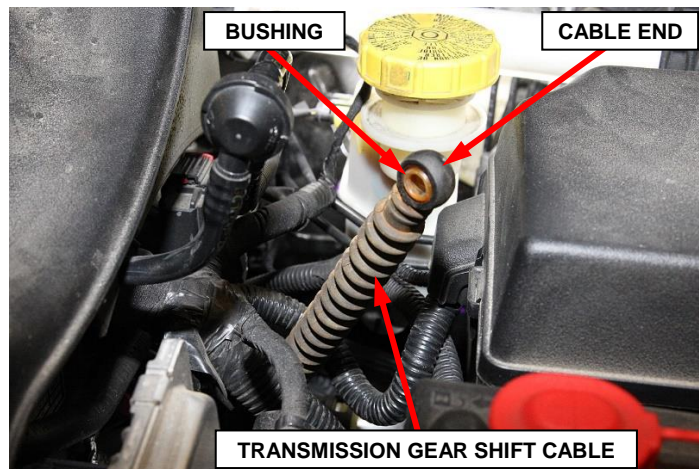

Figure 3 – Reposition Cable for Bushing Replacement
5. Reposition the transmission gear shift cable for access to the cable end bushing (Figure 3).